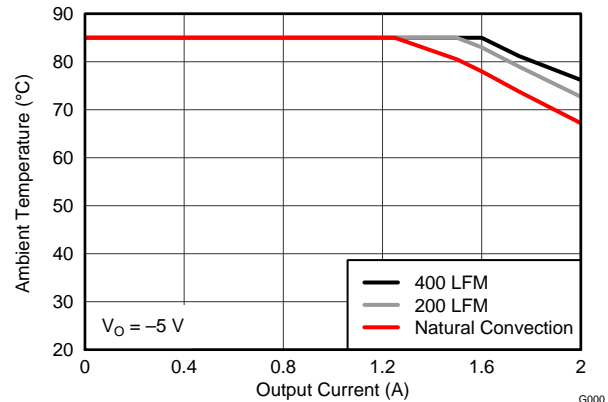
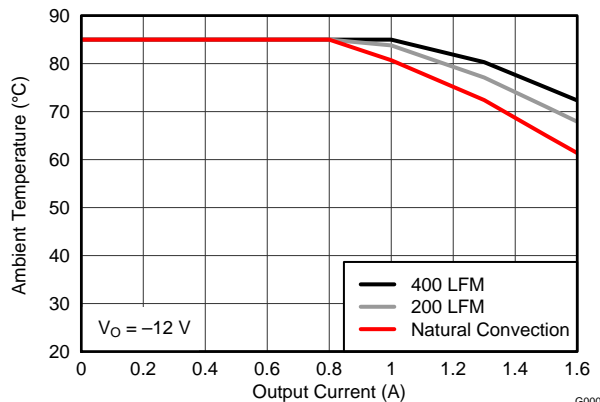

Figure 16. Safe Operating Area
Figure 17. Safe Operating Area
- (3) The temperature derating curves represent the conditions at which internal components are at or below the manufacturer's maximum operating temperatures. Derating limits apply to devices soldered directly to a 100 mm × 100 mm, 4-layer, double-sided PCB with 1 oz. copper. Applies to Figure 16, Figure 17, and Figure 18.